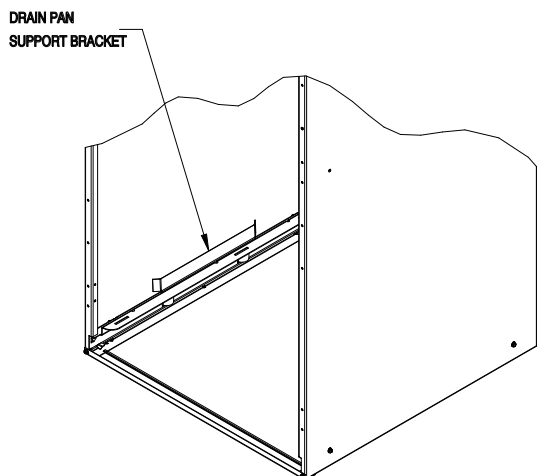

Fig. 7 – Drain Pan Support Bracket
5. Remove horizontal drain pan support bracket from coil support rail on left side of unit and reinstall on coil support rail on right side of unit. (See Fig. 7.)